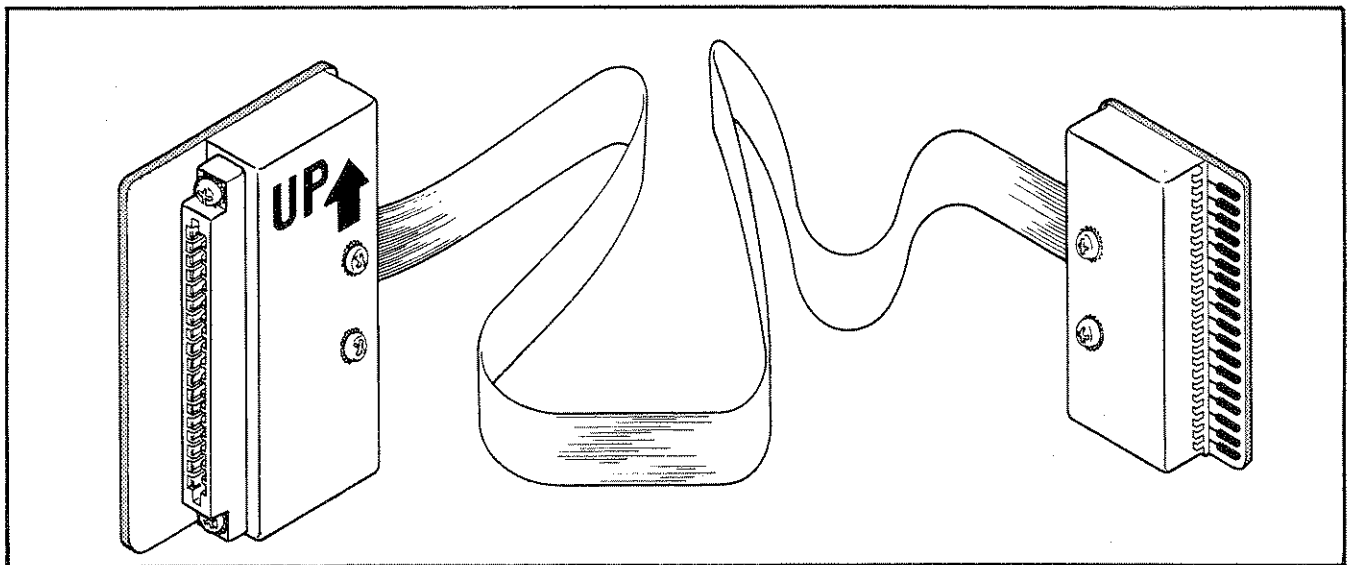

Figure 6-3. CABLE EXTENDER ASSEMBLY
- a. The removal of certain interconnected printed circuit boards requires the use of a cable extender assembly to reconnect the board to its original electrical configuration after the board is inserted into the extender PCB. The cable extender assembly is shown in Figure 6-3, and is obtained by ordering FLUKE PART NO. 337584.